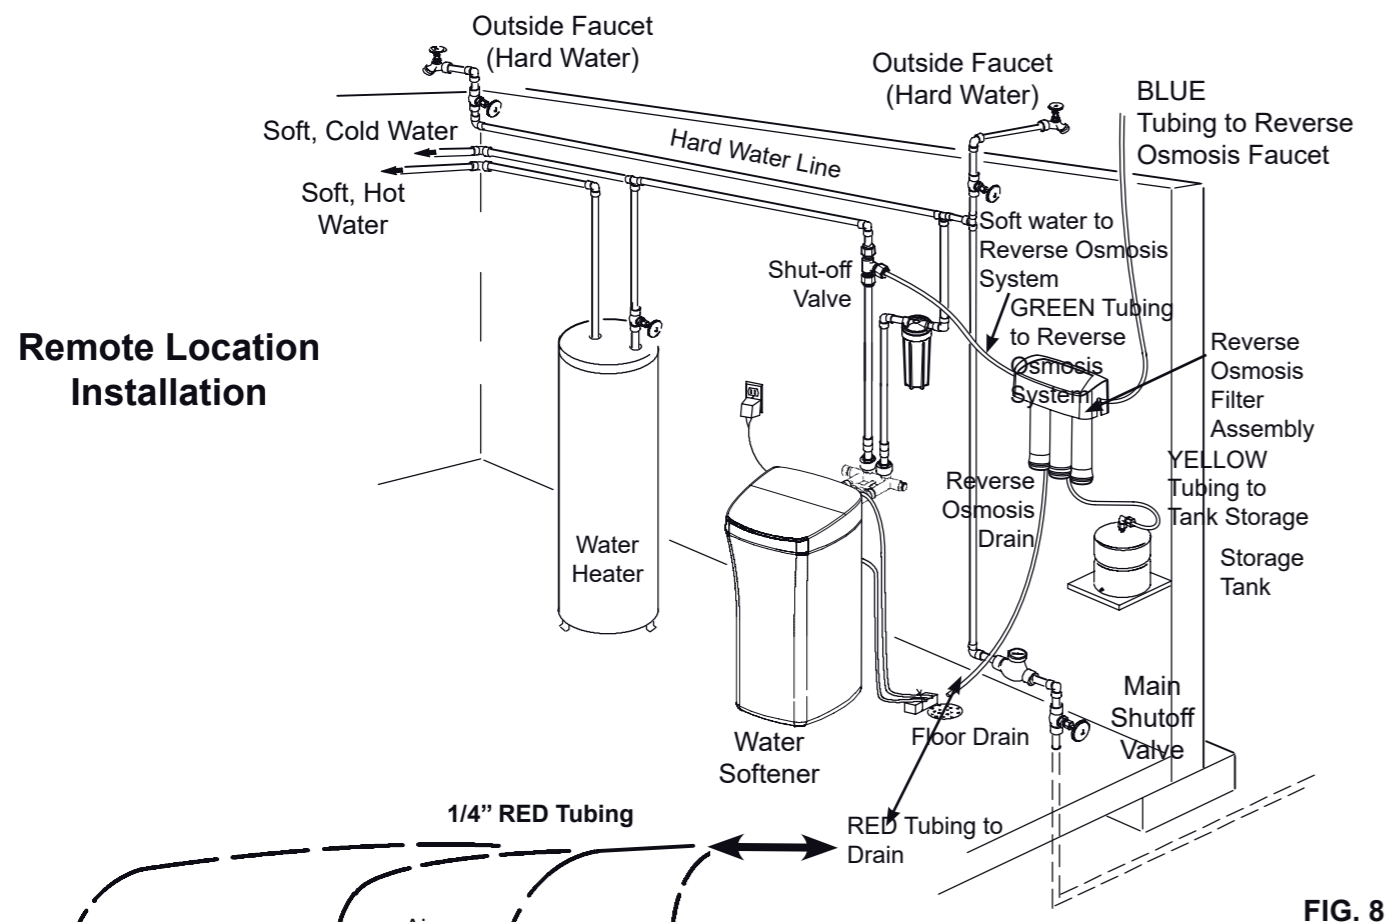

FIG. 8
As shown in Figures 8 and 9, the drain tube from the RO filter runs directly to an open drain. This is often used for remote location installations.
1. Locate the 1/4" (6.35 mm) red tubing on the Reverse Osmosis filter assembly. See Fig. 8.